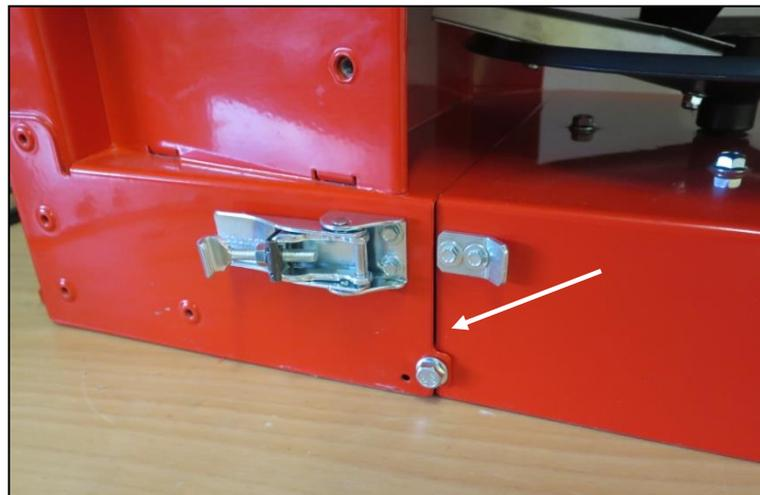

Fig.: 134
- To fasten the plate frame (Fig.: 134), use the enclosed hexagon bolts (AAN13-M6x16) and fasten each of these with a flange nut (BN14476-M6).